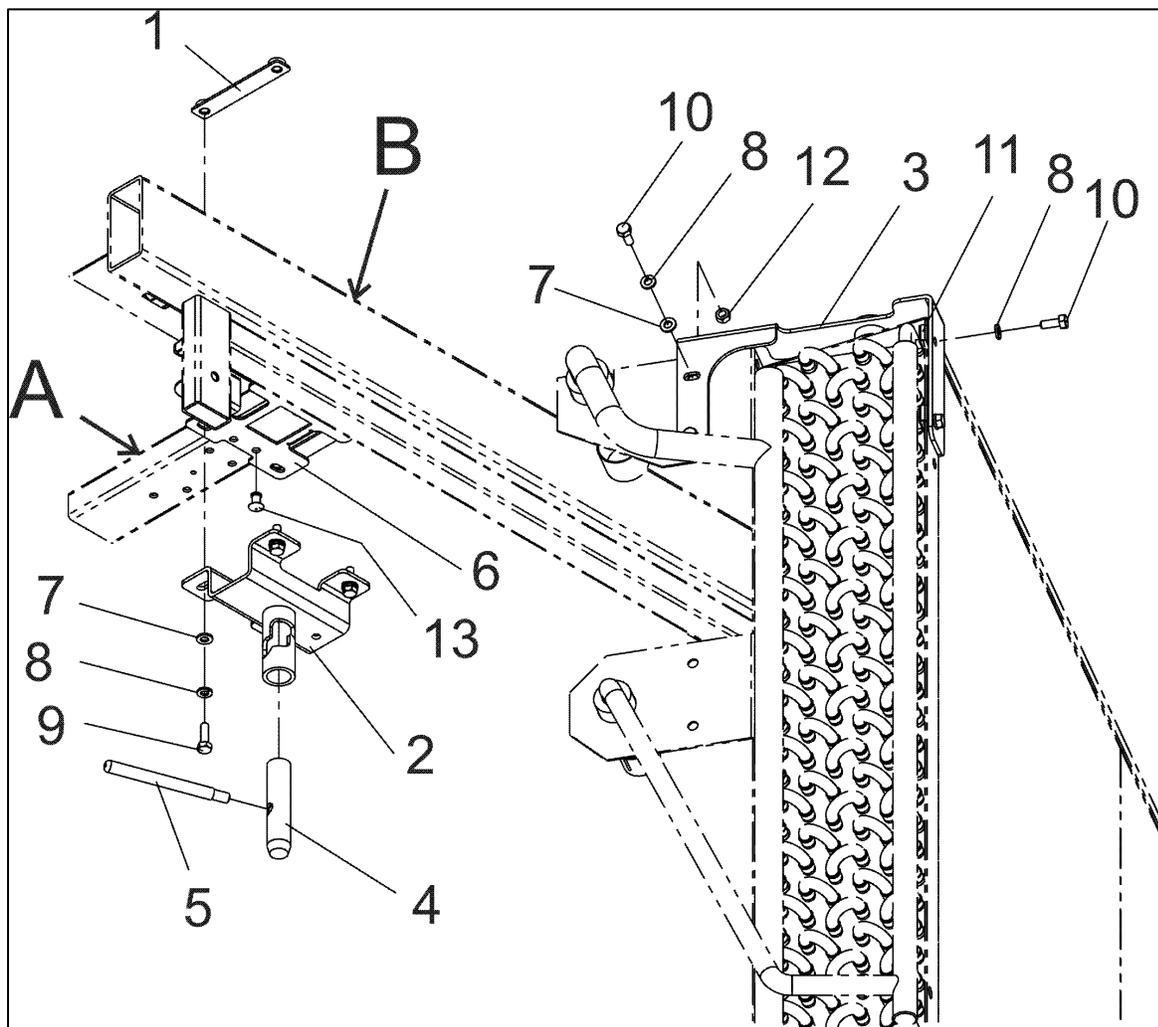

FIGURE 5: COMPONENTS LOCATION
1. Install plate #453843 (item 6, Figure 5) leaning the large tab against tube A and the two smaller tabs against tube B.
4. Secure plate #453843 using four rivets #504459 (item 13, Figure 5).
5. Install the support assembly #453820 (item 2, Figure 5) to the plate as shown on Figure 5 using the following hardware:
Insert the guiding pin #453837 into the support assembly and secure with the threaded pin #453838 (item 5, Figure 5). Apply Loctite 262 on the threaded pin.
1. Install the pin receptacle support #453839 (item 3, Figure 5) on the condenser core frame.
4. Install the pin receptacle support #4538393 (item 3, Figure 5) to the condenser core frame as shown on Figure 5 using the following hardware: